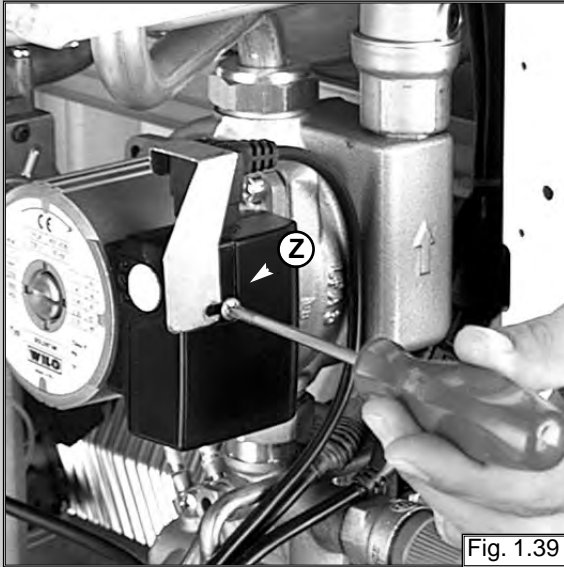

Fig. 1.39
1. Unscrew "Z" and remove the electrical connection (see fig. 1.39);